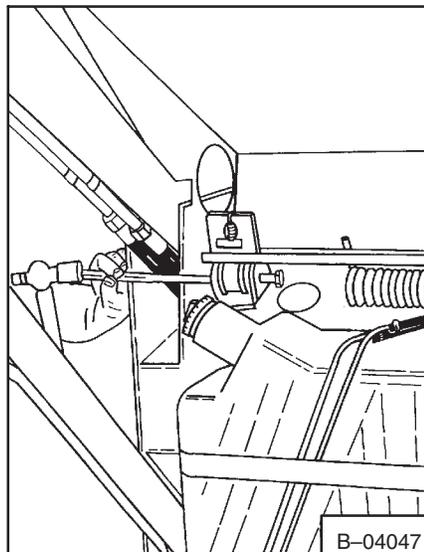

Fig. 5-9 Removing Bolts
6. Remove the bolts using a punch (Fig. 5-9).